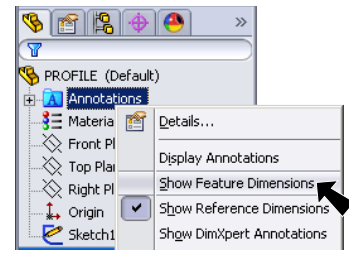

Fig. 4
Step 1. Right click Annotation  in the Feature Manager and click **Show Feature Dimensions** from menu, **Fig. 4**.